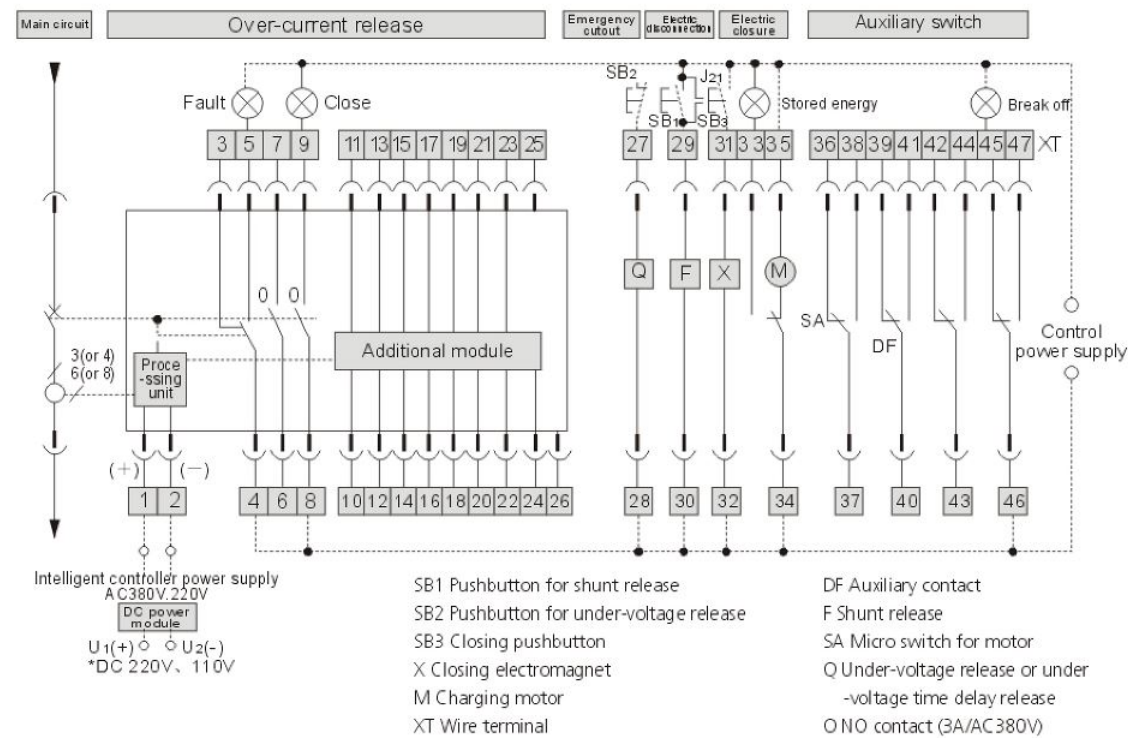

Fig.5-3 M type with additional function or H type intelligent controller wiring diagram
- (1) If the control voltage for Q, F, X, M is different, they shall be connected to different voltage sources.
- (2) Terminal #35 can directly connect with power source (automatically pre-charge energy), also able to connect in series with NC then power source (hand operate pre-charging energy).
- (3) If user required, terminal #6, #7 can connect with NC contact.
- (4) Outer additional accessories shall be provided by user.
- (5) Relay contact J21 of parallel connected with SB1 can be used for remote opening.
- (6) When working source for controller is DC, it shall add DC source module (in this case, terminal #1, #2 not allowed to connect with AC input source).
- (7) Source module overall and installation dimension as figure 5-3.
- (8) Secondary wire connection as drawing (DC source DC 110V or 220V input from U1(+), U2(-), anode of the two output terminals of DC source module connected to 1 (+), negative electrode connected to 2(-).